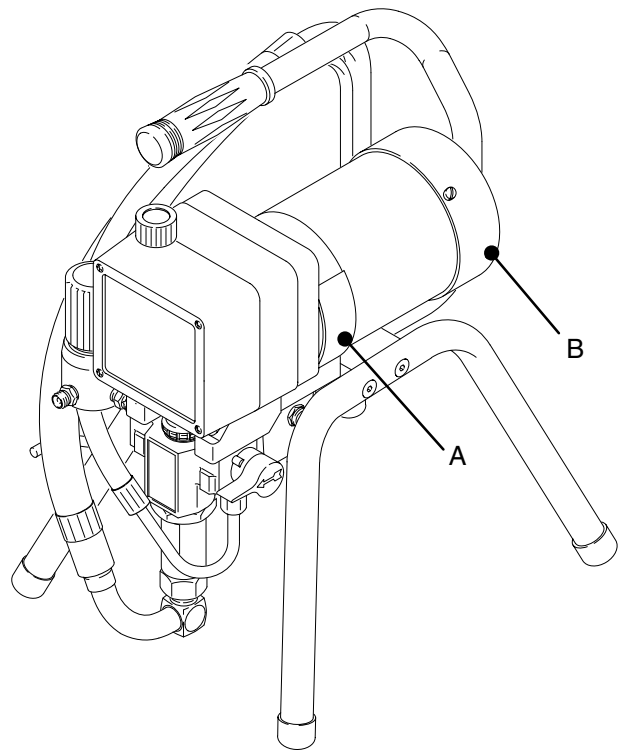

Fig. 12 **Model 231–584 Shown**
Remove the motor brush inspection covers (A). See Fig. 12.
Remove the fan cover (B). See Fig. 12.